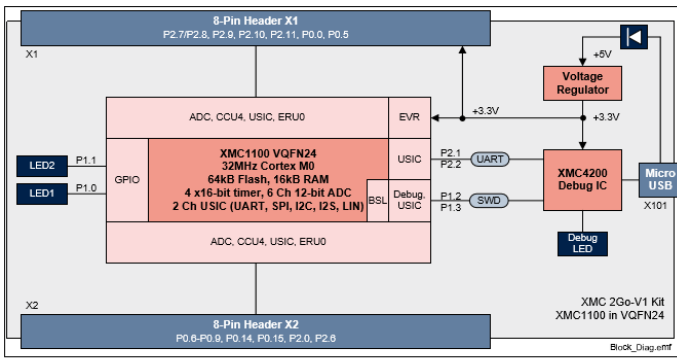

Figure 1 Block Diagram of the XMC 2Go Kit
1.2 Block Diagram The block diagram in Figure 1 shows the main components of the XMC 2Go Kit including the power supply concept. There are following main building blocks: